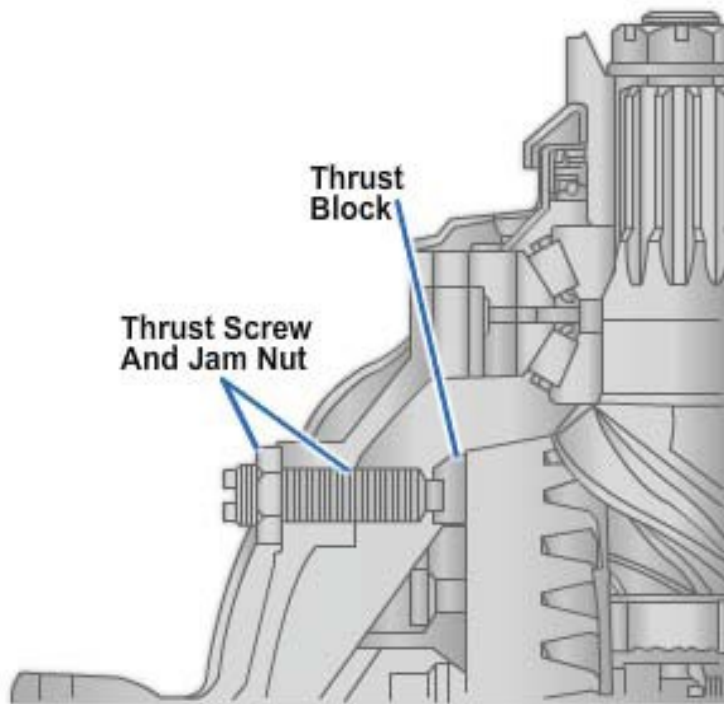

Figure 8-68 – Thrust screw, jam nut, and thrust block.
2. Remove the thrust screw and jam nut from the differential carrier (*Figure 8-68*).